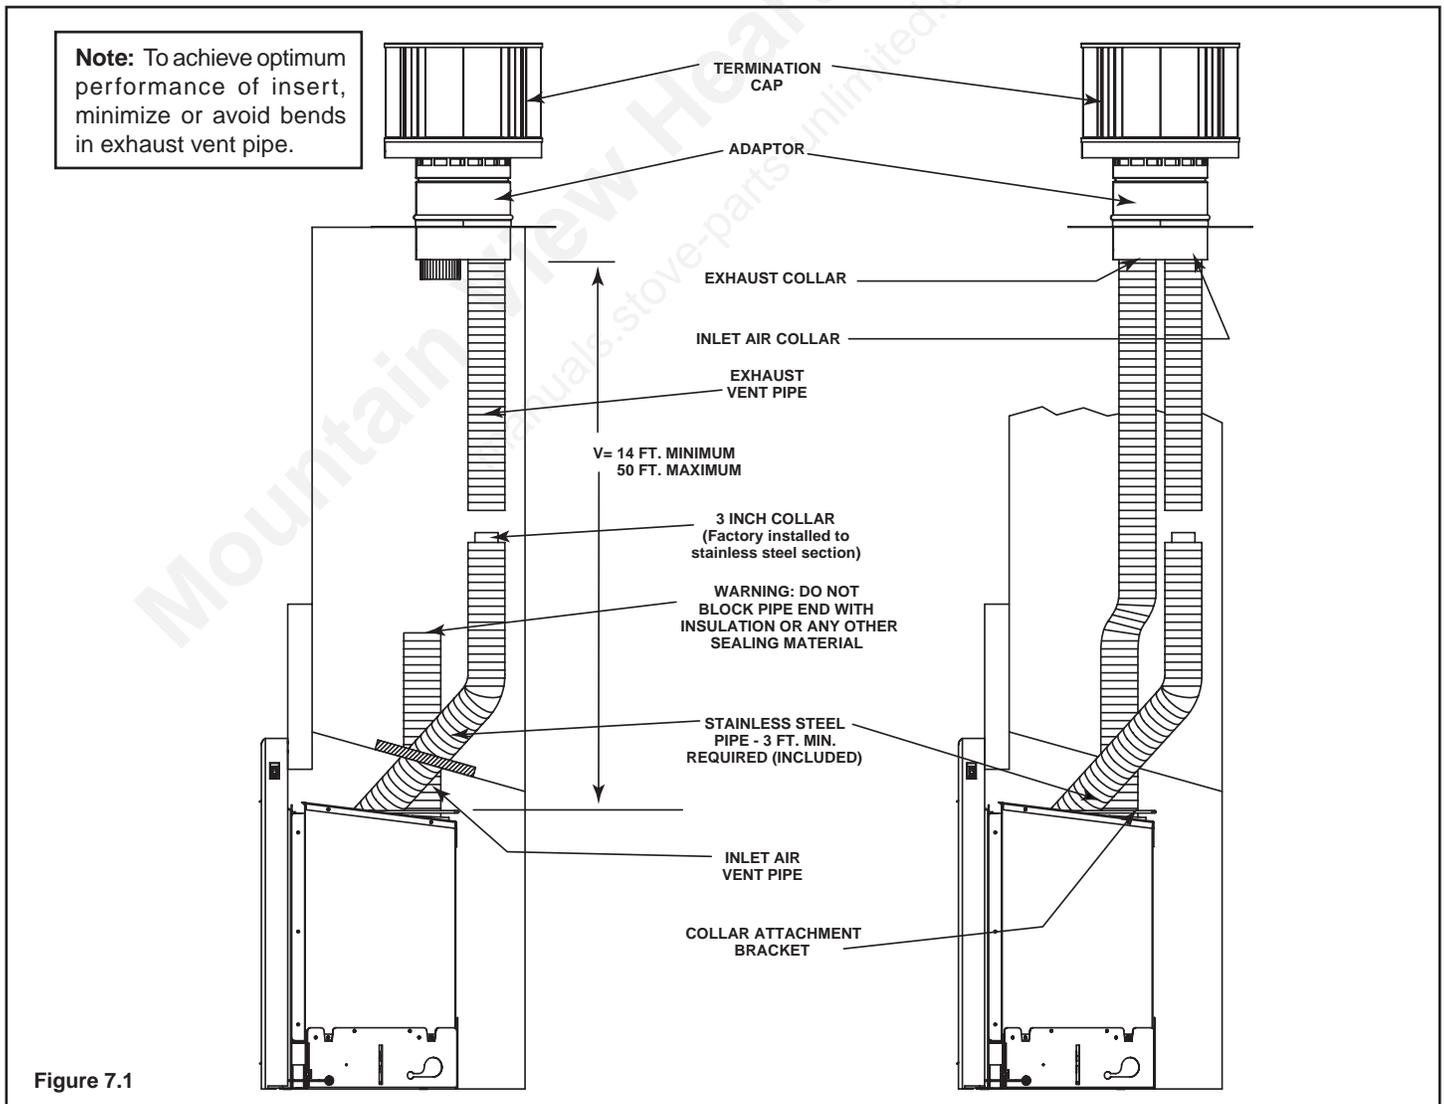

Figure 7.1
- Secure the exhaust flexible vent pipe to the 3 foot section stainless steel flexible vent pipe using the factory-installed 3-inch collar in the stainless steel section of pipe (see Figure 7.1).
- Use 3 screws to attach either a 4 foot or 30 foot section of inlet air vent to the inlet collar on the collar slide plate (see Figure 7.1). NOTE: The collar slide plate may be removed from appliance to aid installation.
- Secure collar slide plate to appliance by placing locking handle into position with locking tabs (see Figure 7.1) and secure with #8 screw.